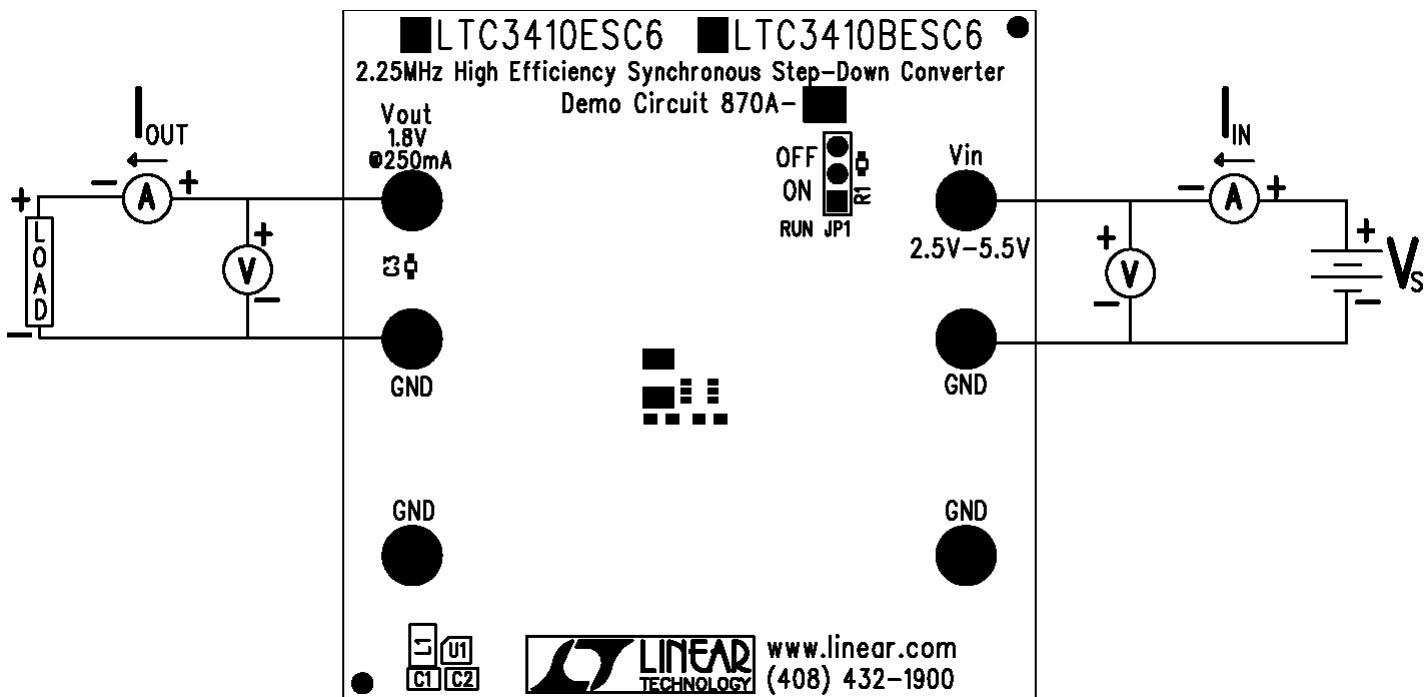

Figure 1. Proper Measurement Equipment Setup
The DC870A-A is easy to set up to evaluate the performance of the LTC3410. For proper measurement equipment configuration, set up the circuit according to the diagram in **Figure 1**. Before proceeding to test, insert shunt on jumper JP1 into the off position, connecting the RUN pin to ground (GND), which shuts down the circuit.
1. Connect the input power supply and the load to the board. Do not hot-plug Vin or increase Vin over the rated maximum supply voltage of 5.5V, or the part may be damaged. Refer to figure 1 for proper measurement equipment setup.